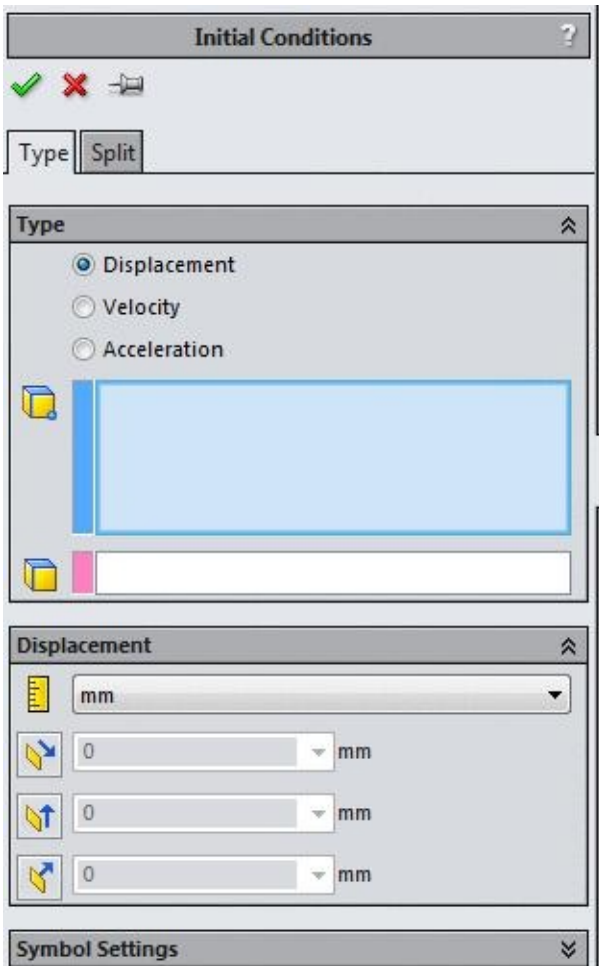

Figure-20. Initial Conditions PropertyManager
- Click on the **Initial Conditions** button from the **Ribbon**. The **Initial Conditions PropertyManager** will be displayed; refer to Figure-20.